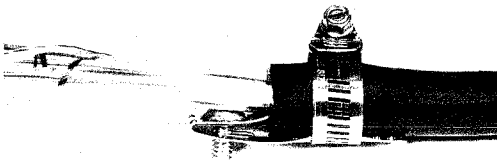

Fig. 4 — Bonding Arrangement Completed
- 4.09** Place a Sealing Clamp over the Sheath, Z Bond Clamp, and Inner Sheath Clamp so that the gearhousing of the Sealing Clamp is directly on top of the ears of the Inner Sheath Clamp. Tighten securely. (See Fig. 4).